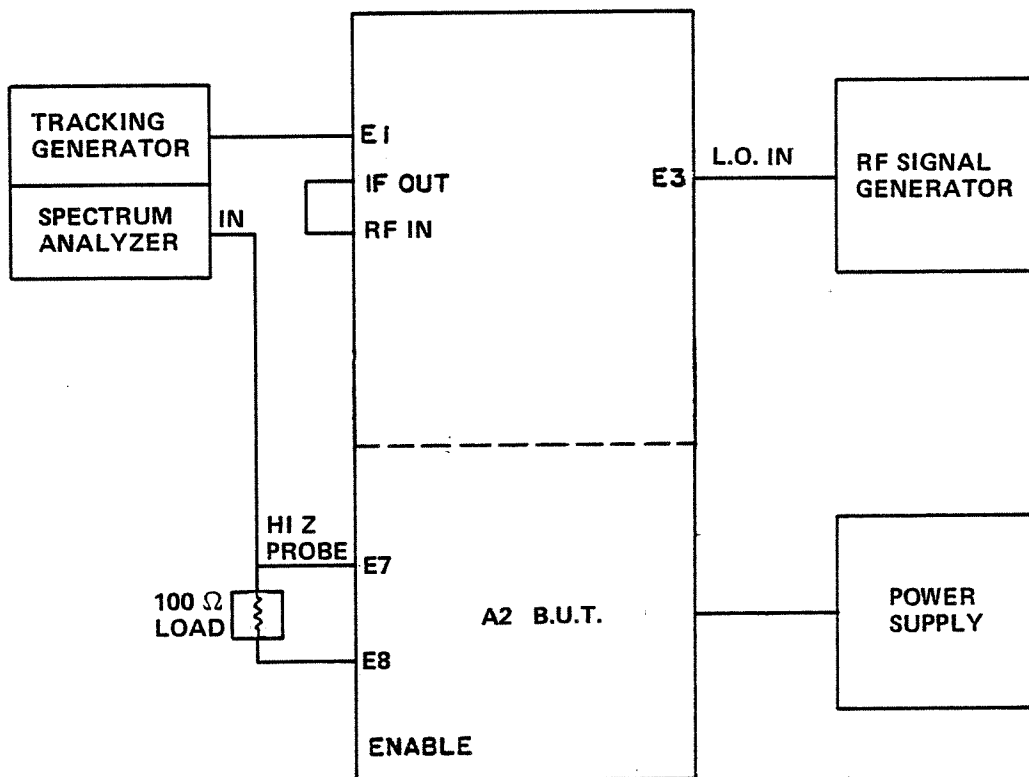

Figure 3-7. Overall Board Response, Test Set-Up
1. Connect the test equipment as shown in Figure 3-7.